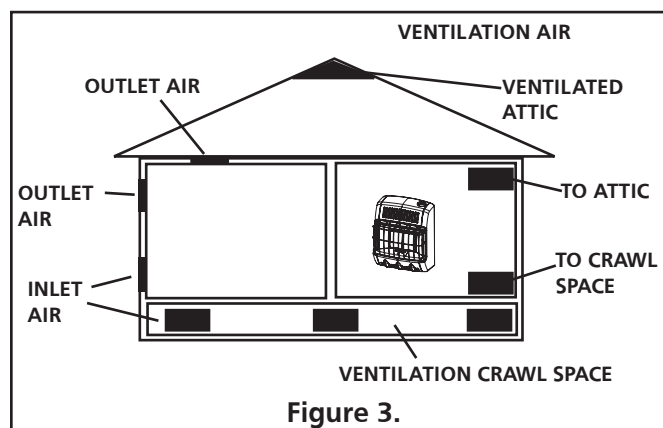

Figure 3.
- B. Vent room directly to the outdoors. See Ventilation From Outdoors (Fig. 3).